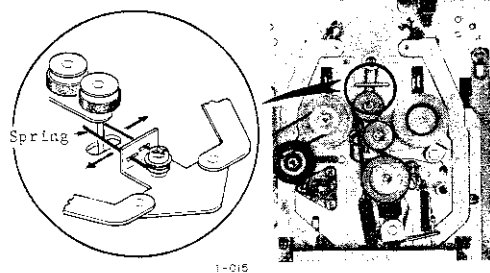

Fig. 6-3 F.FWD and Rewind Take-up Measurement
5. If adjustment is needed (only when outside the limits given in step 4), bend the spring indicated in Fig. 6-3.